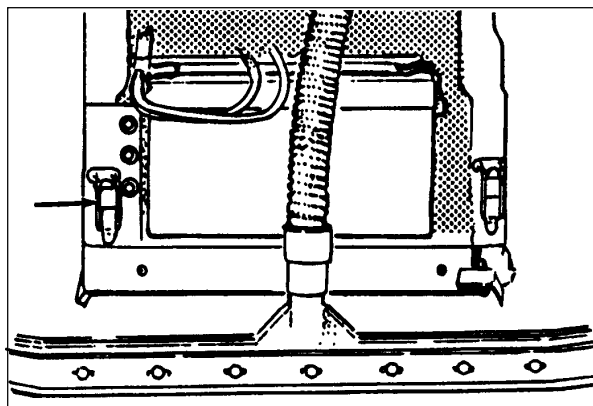

Figure 19
2. Unlock the hold-down clamps located at the rear on either side of the machine. See figure 19.